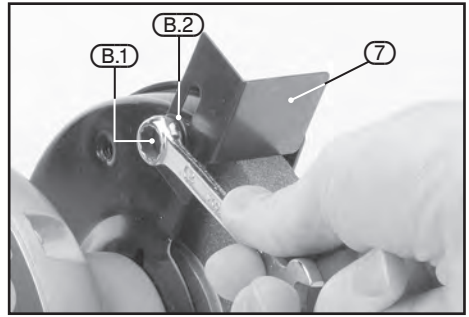

FIG.3
8.4 ATTACHING THE SPARK DEFLECTORS – FIG.3
- Attach the left and right hand spark deflectors using the fittings from group's (B) and (C) shown in 7.2 WHAT'S IN THE BOX section on page 12.
- Attach the spark deflectors using the two bolts (B.1) and medium size washers (B.2) as shown in Fig.3.